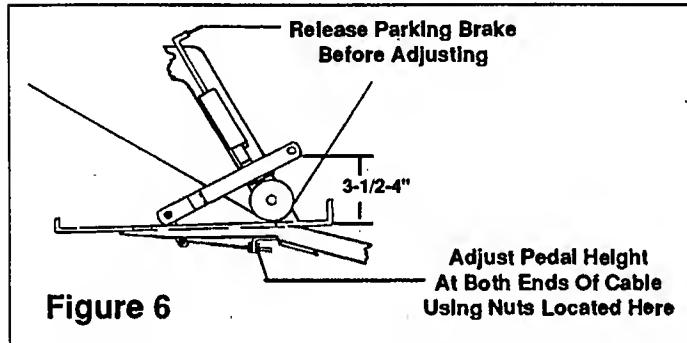

Figure 6
1. With parking brake released adjust foot pedal so that it is 3-1/2" - 4" above foot rest (see figure 6). HINT: Use a 2x4 board on edge between pedal and foot rest for approximate positioning. Adjust foot pedal position by adjusting the two cable mounting nuts located on each end of the cable housing.